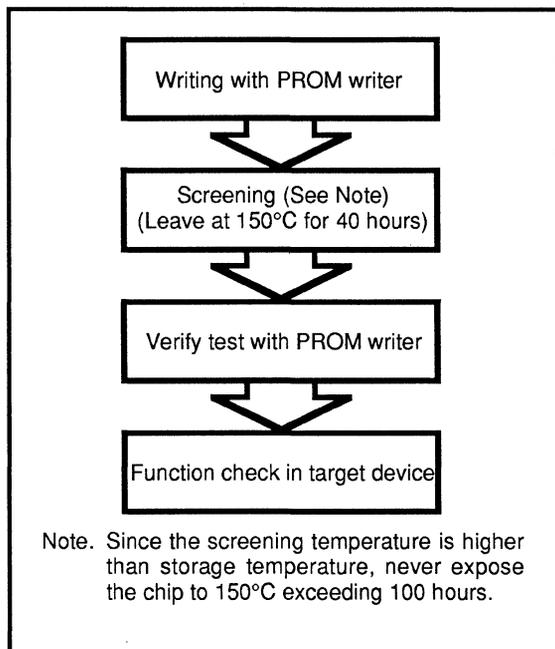

Fig. 3.4.1 Flow of Writing and Testing of One-Time Programmable Versions
- (1) Sunlight and fluorescent light include wavelengths which will erase an EPROM. Unless the internal EPROM version is being erased, cover the transparent glass window with a light-proof seal.
- (2) Mitsubishi provides light-proof seals designed to cover the transparent glass window of the internal EPROM version. Make sure that the seal does not touch the pins of the microcomputer.
- (3) Before erasing the EPROM version, clean the transparent glass window. Oil from fingers and glue may hinder the transmission of ultraviolet light and adversely affect erasure.
- (4) Insure that excessive voltages are not used when writing. Pay particular attention when turning on the power source.
- (5) Mitsubishi does not test or screen any writing to PROM in the M38063E6-XXXFP/GP after it has left the factory. To improve reliability after writing, we recommend that the M38063E6-XXXFP/GP is written to and tested in the sequence shown in Figure 3.4.1.